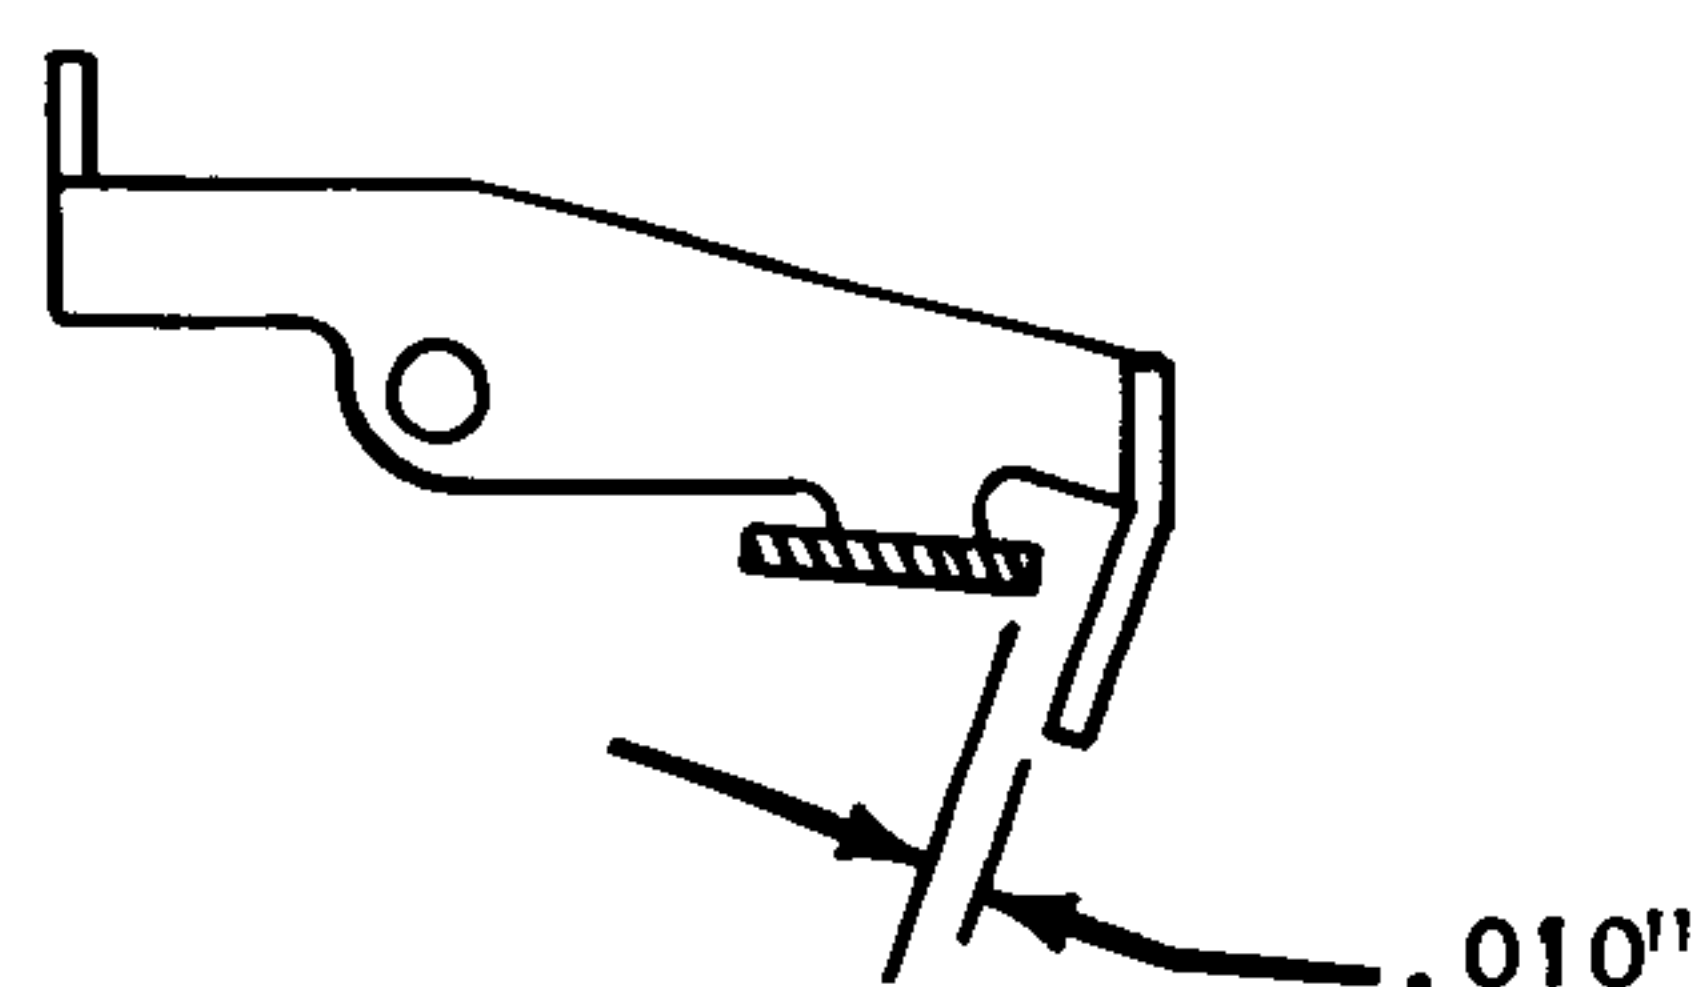

Figure 209. Stencil Locking
8. Stencil Lockout (Fig. 209) - With the lift lever in stencil position and the cam follower on the high point of the ribbon feed cam, form the ribbon feed latch for .010" clearance with the lug on the cam follower.